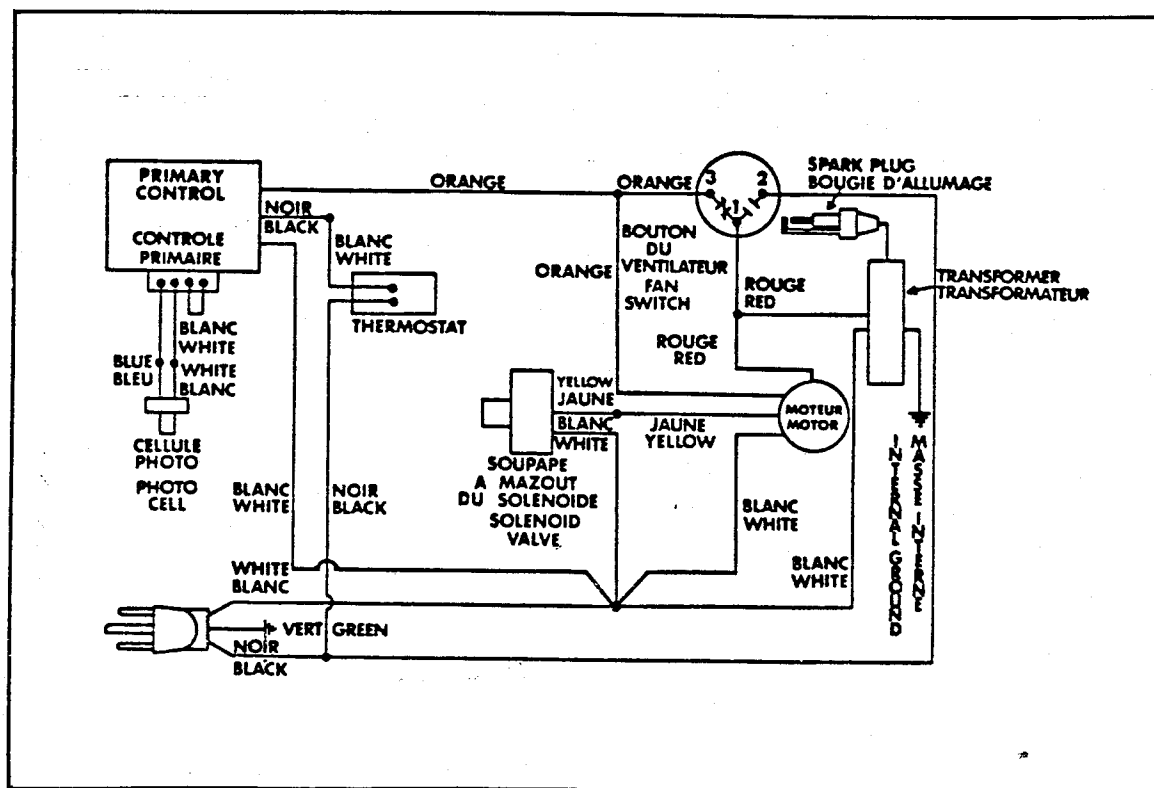

Figure 1. Wiring Diagram
The following is a description of the normal automatic operating sequence of the heater (See the Wiring Diagram, Figure 1).
7. After replacing the control system components, test fire the heater to make sure it will function properly. If it does not, check all wiring connections according to the wiring diagram, Figure 1. Repeat the testing procedure if necessary.
Improperly wired after servicing.	Check wiring according to Wiring Diagram, Figure 1.